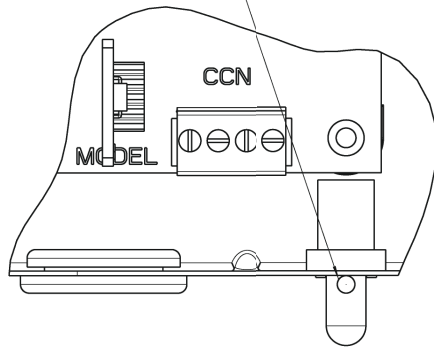
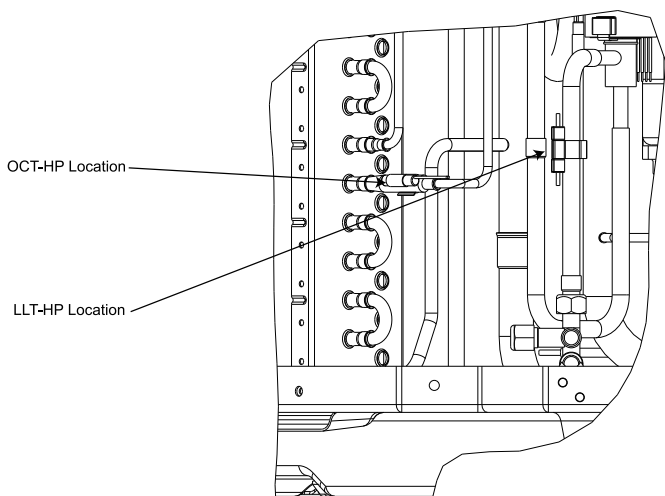
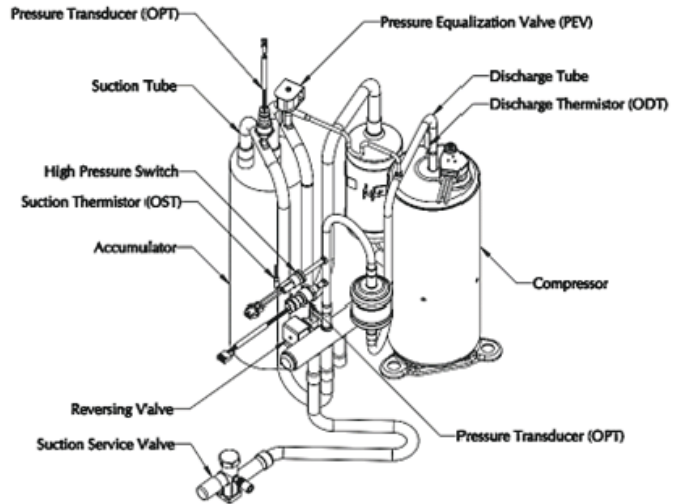

Fig. 14 – OAT Thermistor Mounting Location
Fig. 15 – OCT-HP and LLT-HP Thermistor Mounting Locations
Fig. 16 – OST Thermistor and ODT Thermistor Mounting Locations
**IMPORTANT:** The OAT, OCT/LLT, OST, and ODT thermistors should be factory mounted in the final locations. Check to ensure thermistors are mounted properly (See Fig. 14, Fig. 15 and Fig. 16).
The OAT is a 10K thermistor used for multiple system operations. It provides the outdoor air temperature to the primary control module and Evolution™ Connex™ System Control. It is essential for controlling the system and is used in almost all modes of operation. The sensor is mounted in the control box per Fig. 14. See Table 7 for proper resistances.
The OCT-HP Thermistor is a 10K thermistor used for multiple system operations. This sensor is connected to the PCM through a shared 5-pin connector with OAT-HP and provides the coil temperature to the primary control module and Evolution™ Connex™ System Control. It is used for low ambient operation, defrost control, and other system operations. The sensor must be securely mounted to the stub tube on the outdoor coil. Note that there is only one stub tube used and on most units it is the bottom circuit. See Fig. 15 for proper placement. See Table 7 for proper resistances.
The LLT-HP is a 10K thermistor used for multiple system operations. LLT-HP is connected to the PCM through a separate 3-pin connector and provides to the primary control module and Evolution™ Connex™ System Control. It is used for heating control and subcooling calculation during charging. The sensor must be securely mounted to the liquid tube in between the liquid service valve and the EXV. See Fig. 16 for proper placement. See Table 7 for proper resistances.
The OST is a 10K thermistor used for assisting in EXV control and must be secured on the suction tube and aligned longitudinally to the vertical surface of the tube axis (see Fig. 16). See Table 7 for proper resistances.
The ODT is a 50k thermistor used for determining discharge superheat and protecting the compressor from over-temperature operation. Proper mounting is required to reduce the influence of ambient temperature and provide accurate tube temperature. ODT is located on the compressor discharge stub-out (see Fig. 16) and should be inside the compressor sound blanket. See Table 8 for proper resistances.